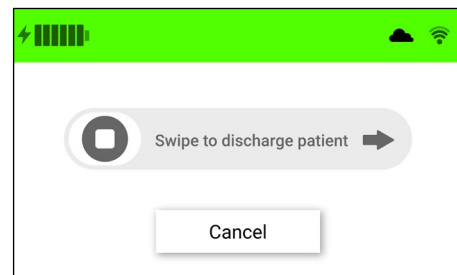

Figure 14. Swipe to discharge patient screen
2. A confirmation screen will appear. Select Yes to discharge the patient. (Fig. 14)